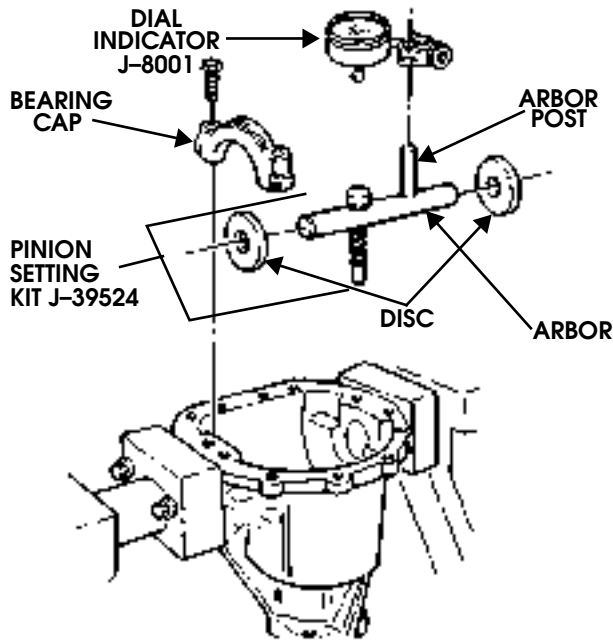

Figure 9-85: Positioning J-39524 Arbor and Discs In Housing
- Rotate front of housing downward 90 degrees. Assemble arbor and two discs and install in housing (Figure 9-85).
15. This reading indicates the shim thickness required for a pinion etched with a zero (0) on the pinion head. If the pinion being installed has a plus (+) or minus (-) etching, then an adjustment of the shim thickness is required. Example: If a pinion is etched +3, then 0.003 inches less shim thickness is required. Subtract 0.003 inches from the indicator reading. If a pinion is etched -3, then 0.003 inches more shim thickness is required. Add 0.003 inches to the indicator reading.
16. Remove dial indicator from arbor (Figure 9-85).